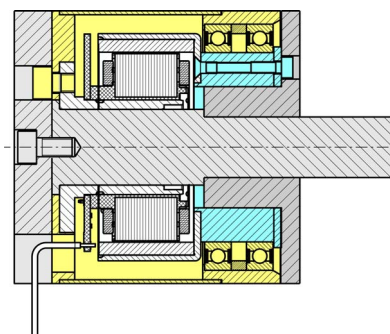

Figure 3-18 Final position stator/rotor
- Continue until the rotor completely lays in the stator (→ Figure 3-18).